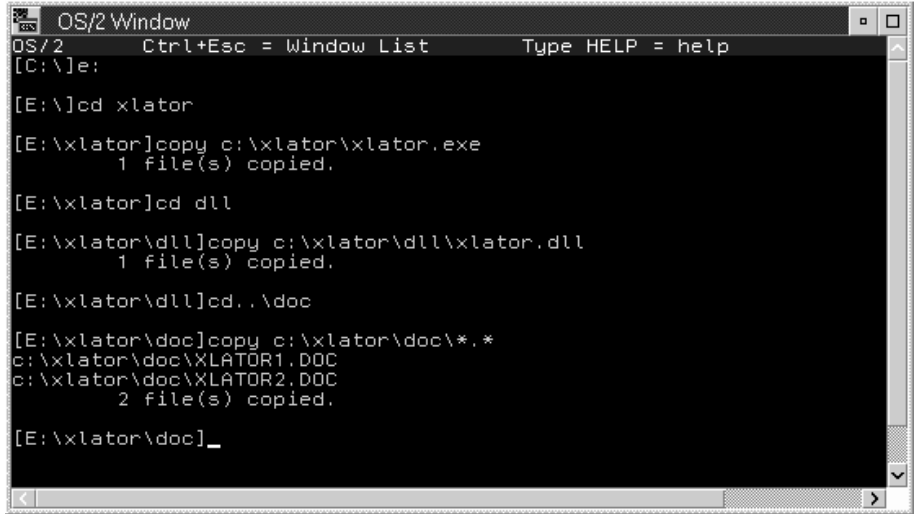

Figure 101. Copying files to the DiskCamera drive
- 2 From an OS/2 prompt, copy the files to the E drive, as shown in Figure 101 on page 185.